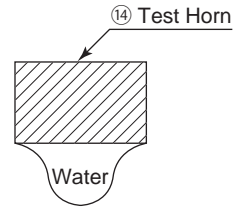

Fig. 15
- (1) Mount the Test Horn ⑭ securely on the Handpiece ②.
- (2) Set the UNCLAMP () / CLAMP () Switch ⑤ to UNCLAMP mode (), and the Power Control Knob ⑨ to MIN.
- (3) Put a drop of water on the Test Horn ⑭ (Fig. 15).